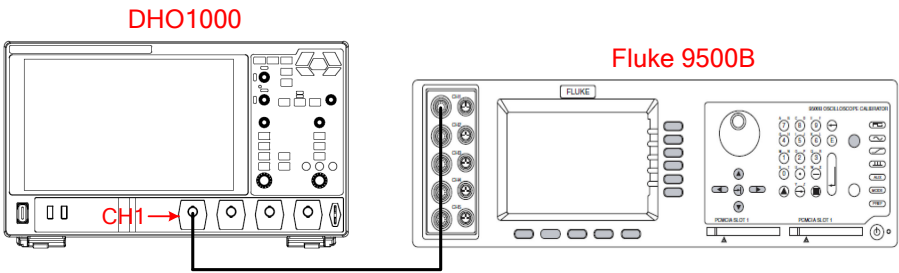

Figure 5.1 Input Impedance Test Connection Diagram
1. Connect the active head of Fluke 9500B to CH1 of the oscilloscope, as shown in *Figure 5.1*.